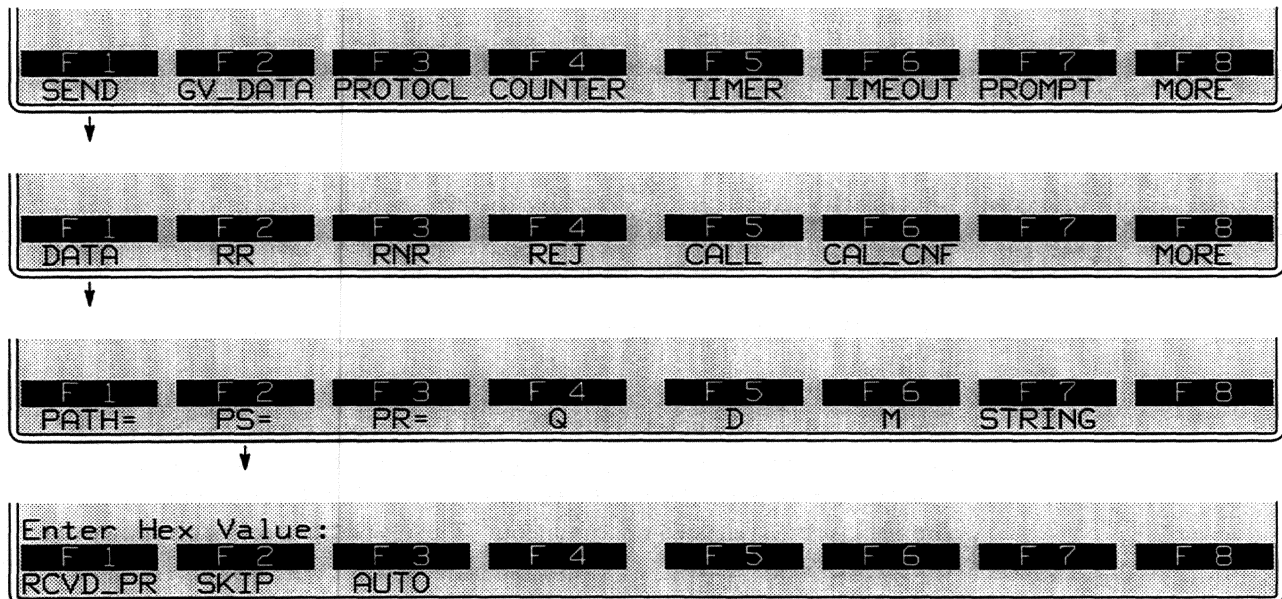

Figure 38-27 The P(S) field may be specified in a *SEND DATA* action.
7. *P(S)*. *P(S)* fields are transmitted in data packets only. (See the packet-field diagrams in Figure 38-6.) The softkeys that open below *PS=* are illustrated in Figure 38-27.